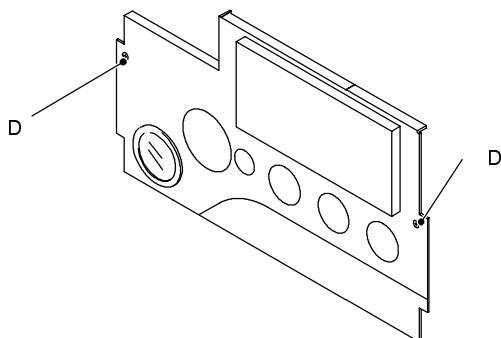

fig. 6
- 2 Remove the two screws *D* (fig. 6) and lower the instrument panel.